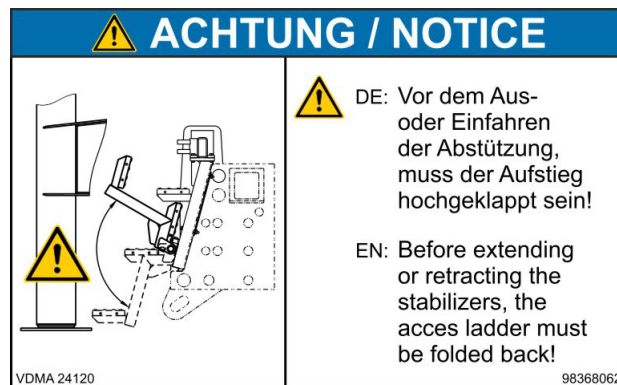

Fig. 53 Folding steps
- Move all foldable equipment (e.g. steps, (Fig. 53 Folding steps)) into the transport position.